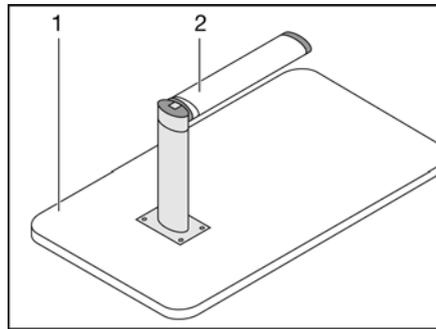

Fig. 54 Bed foundation
- Lift the front of the table-top (Fig. 54,1) by approx. 45°.
- Pull the lower part of the fold-out leg (Fig. 54,2) down and fold through 90°.